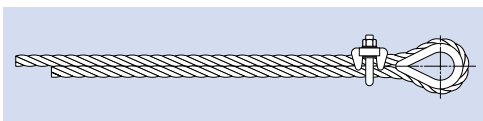

Fig. 7: Positioning of the first wire rope clip
- For a termination with a thimble (e.g. acc. to EN 13411-1) the first wire rope clip must be installed directly behind the thimble (Figure 7) and tightened with the appropriate tightening torque (Table 1).